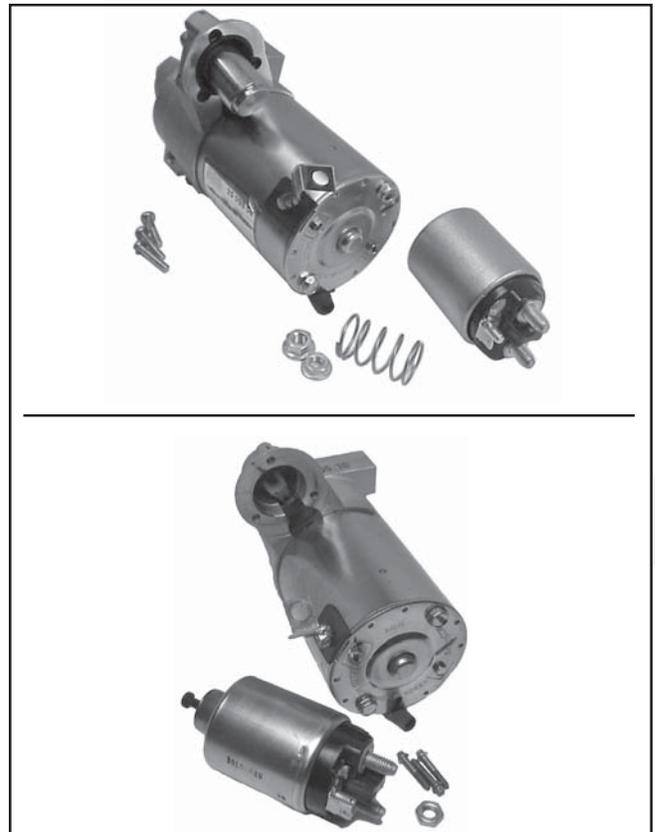

Figure 8-17. Solenoid Removed from Starter.
3. If the solenoid was mounted with Phillips head screws, separate the solenoid and plunger spring from the drive end cap. If the solenoid was mounted with external Torx head screws, the plunger is part of the solenoid, unhook the plunger pin from the drive lever. Remove the gasket from the recess in the housing. See Figures 8-17 and 8-18.